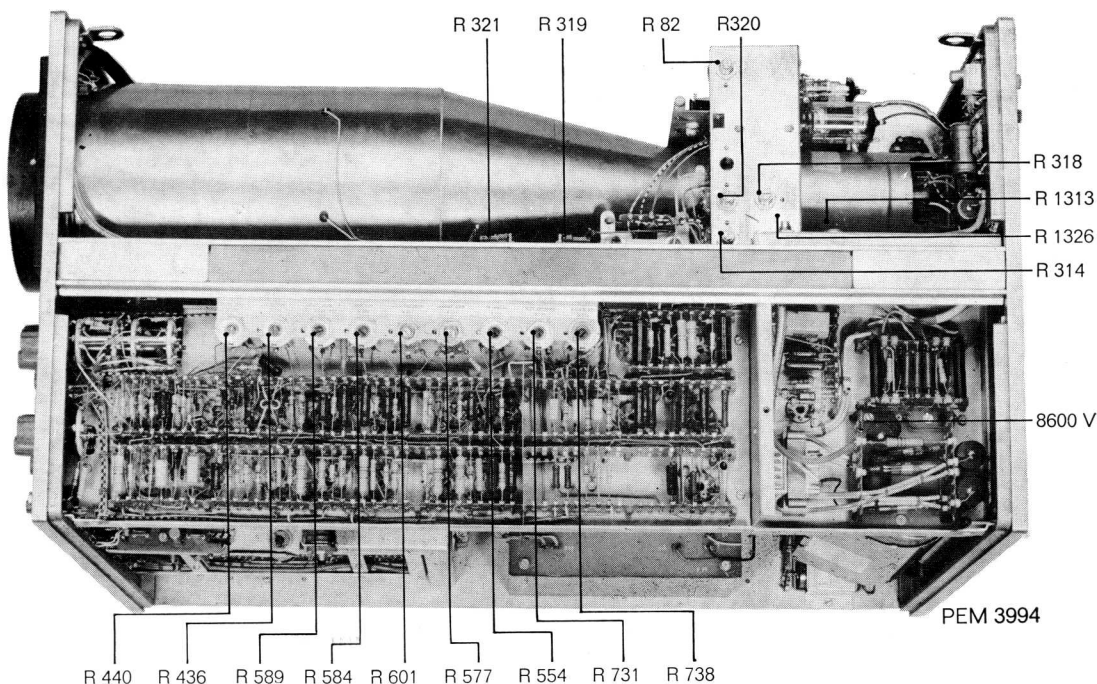
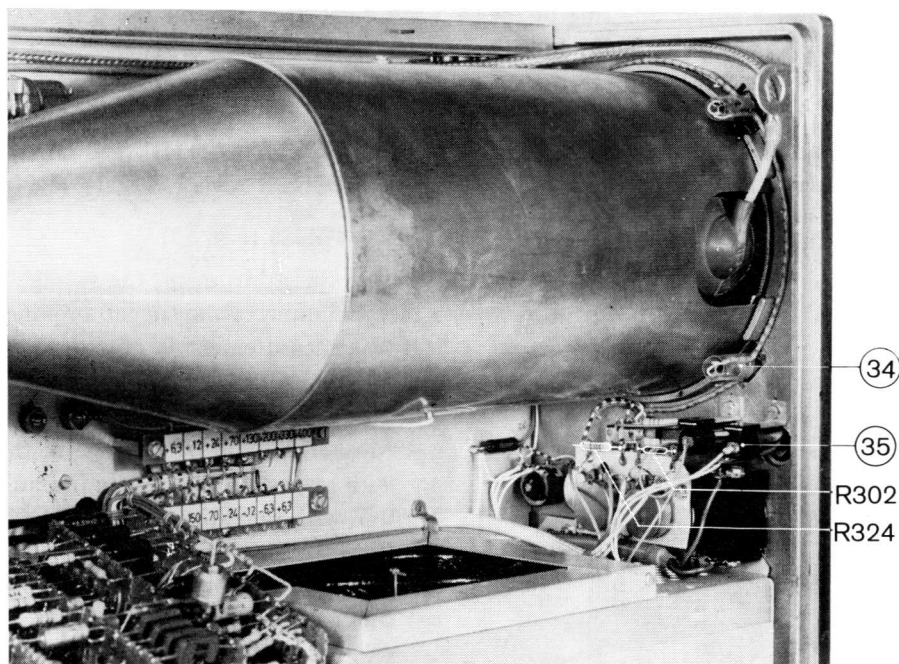
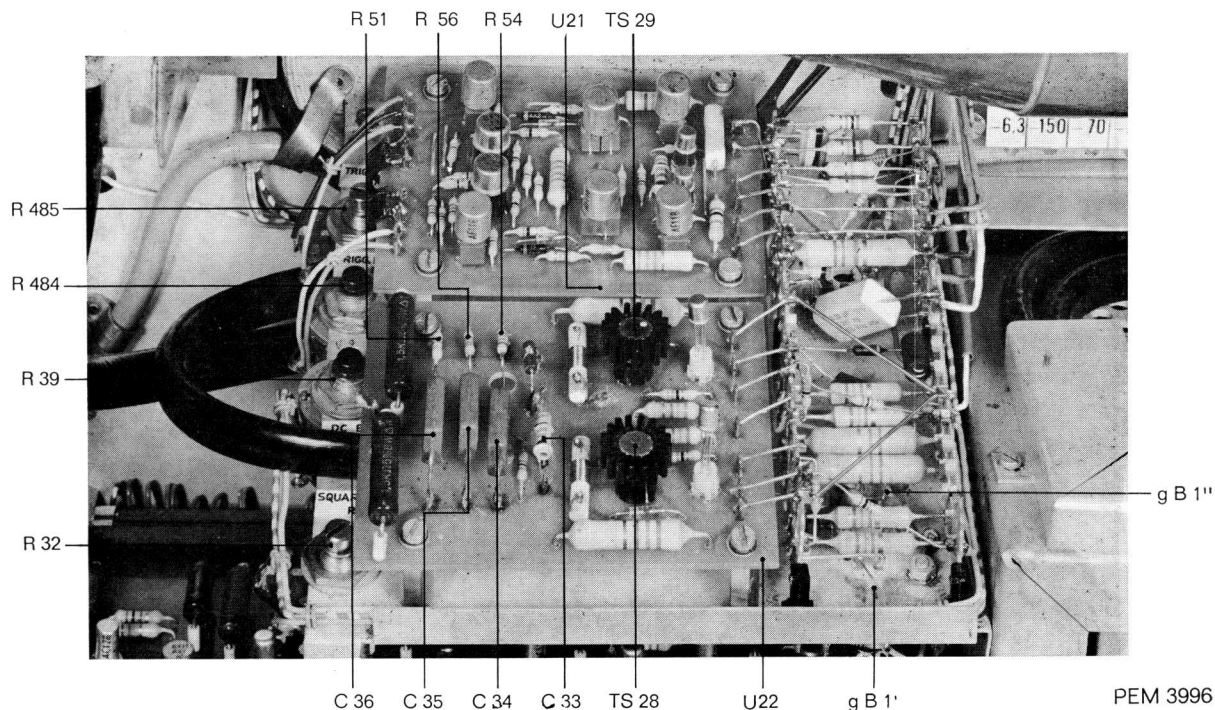

Fig. 54. Top-view of the interior
Fig. 56. Close-up of the rear of the CRT controls
Fig. 62. Close-up of the delay line driver and the trigger amplifier
### R 1326 (Fig. 54)
### R 320 (Fig. 54)
### 2. Beam centring R314 (Fig. 54)
#### R1313 (Fig. 54) R302 (Fig. 56) R306 (Fig. 69)
#### R319-R321 (Fig. 54)
#### R324 (Fig. 56)
#### R318 (Fig. 54)
#### R82 (Fig. 54) R39 (Fig. 62)
- Interconnect the control grids of B1 and B1'. (Fig. 62) When using the test-unit PM 3361 this can be effected by depressing button "DC-BAL." while the test selector is in position "POWER SUPPLY".
#### R731 (Fig. 54)
**C33–C34–C35–C36–R51–R53–R54–R56 (Fig. 62)**